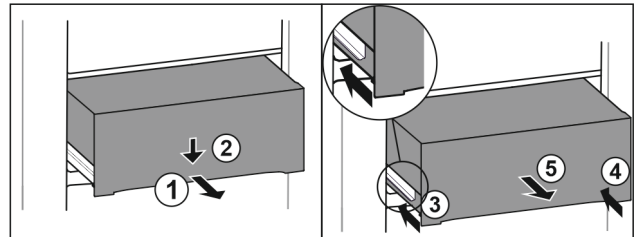

Fig. 193
- Pull out drawer half-way. Fig. 193 (1)
- Push the drawer down at the front. Fig. 193 (2)
- Push the left rail in by about 2 cm. Fig. 193 (3)
- Push the right rail in by about 2 cm. Fig. 193 (4)
- Remove drawer to the front. Fig. 193 (5)